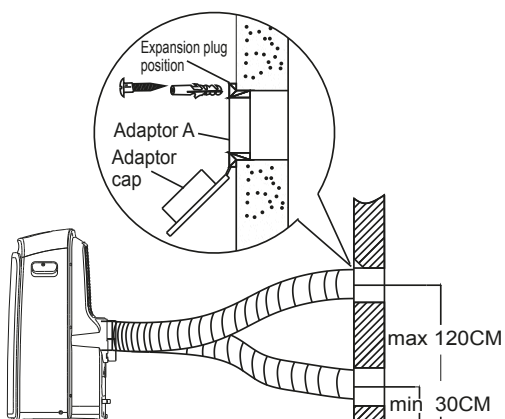

Fig.18
- 1 Prepare a hole in the wall. Install the wall Exhaust adaptor A onto the wall (outside) by using 4 expansion plugs and wooden screws, be sure to fix thoroughly. (See Fig. 18)